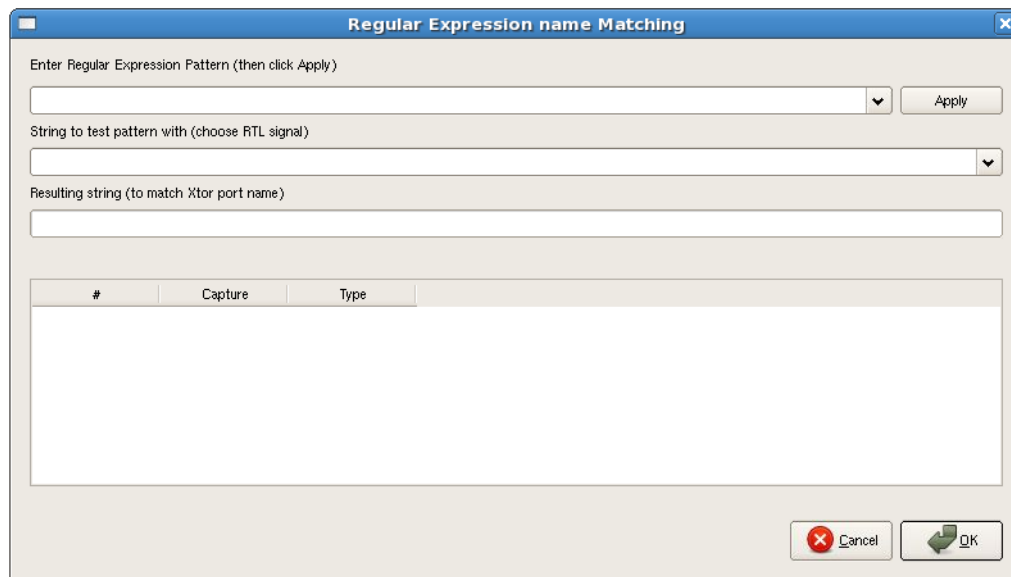

Figure 5-20 Regular Expression Name Matching dialog
2. On the Add Port dialog, click **Advanced Matching**. The Regular Expression Name Matching dialog appears (Figure 5-20).